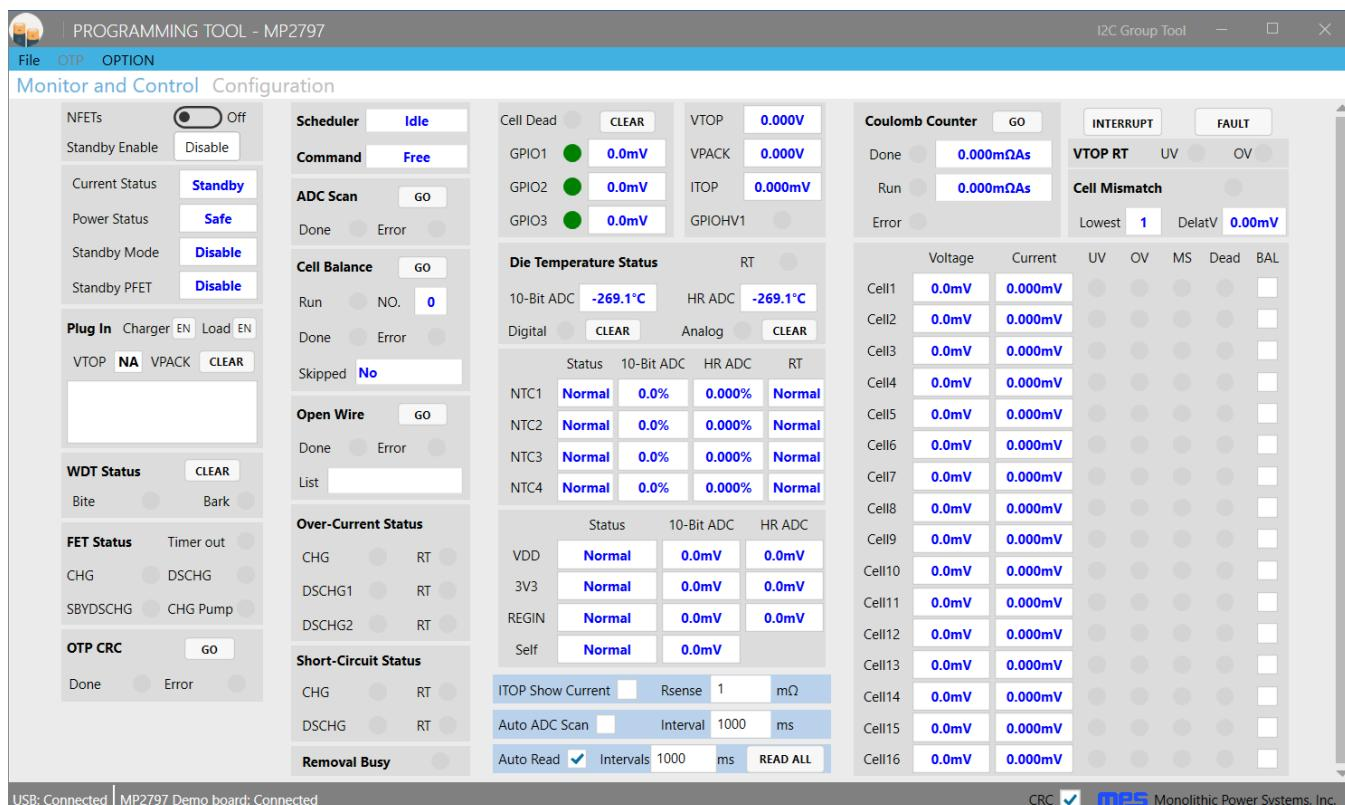

Figure 11: USB and MP2797 Demo Board Show as Connected
- If the connection is successful, both the USB and MP2797 demo board statuses will be listed as “Connected” (see Figure 11).